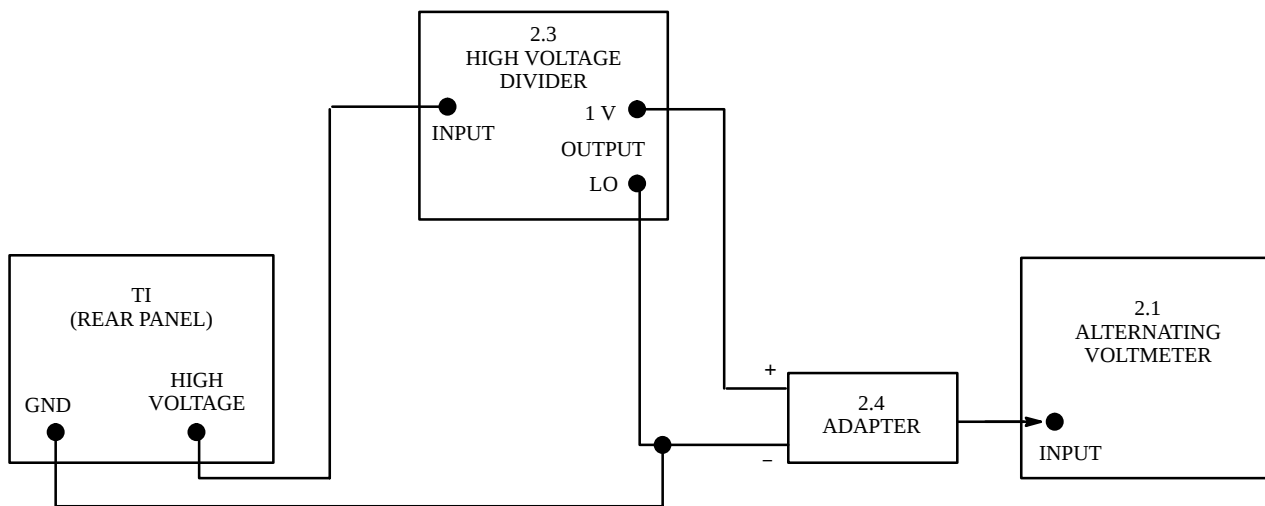

Figure 2. Voltmeter Measurement Configuration
4.1.2.1 Connect the equipment as shown in Figure 2.